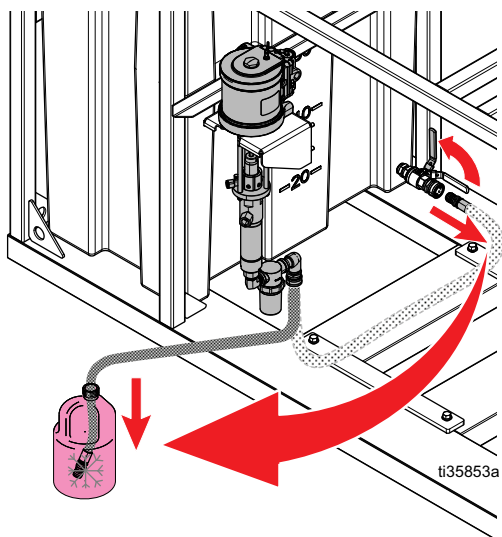

FIG. 39: Insert the Pump Inlet Hose
2. Drain the water tank (AF). Disconnect the pump inlet hose and open the water tank valve (AG). See FIG. 39.